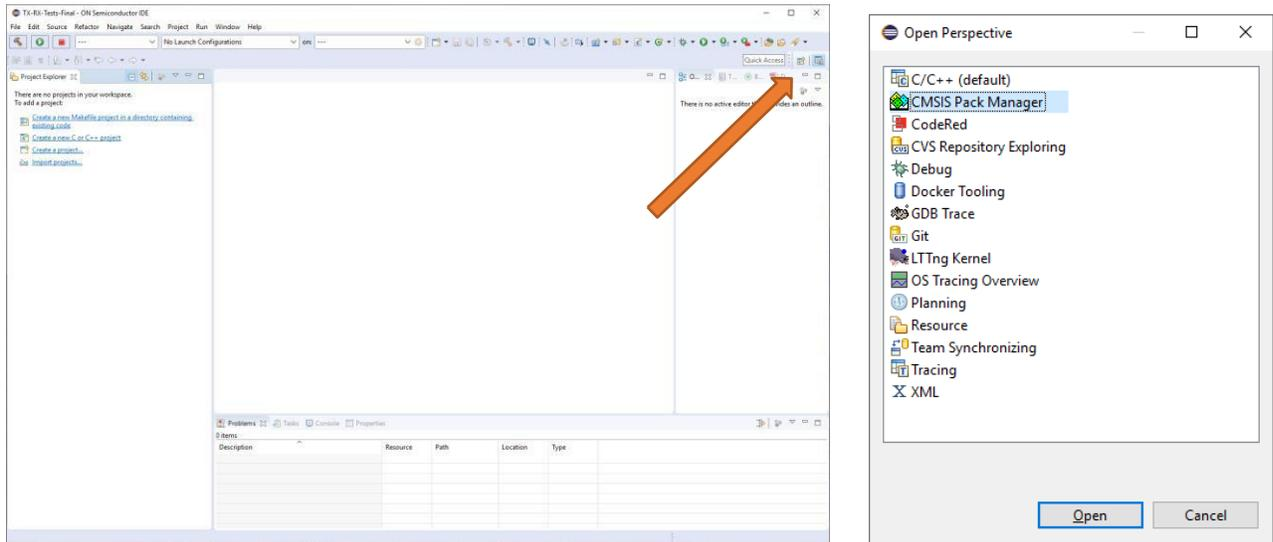

Figure 3: Open CMSIS Pack Manager
3. In the top right corner of the workbench perspective, click on the *Open Perspective* icon, select *CMSIS Pack Manager*, then click *Open*. (See Figure 3).